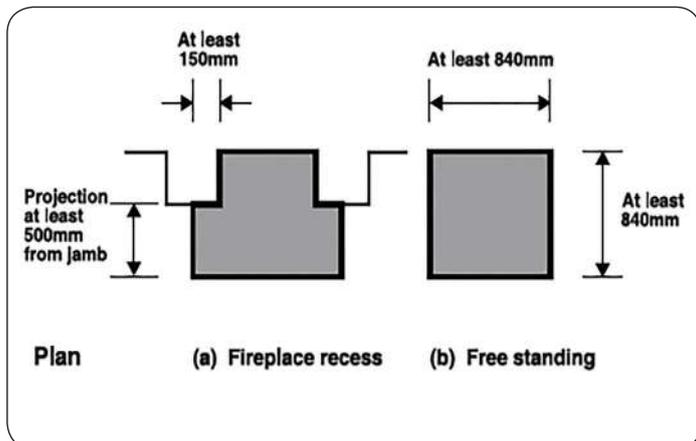
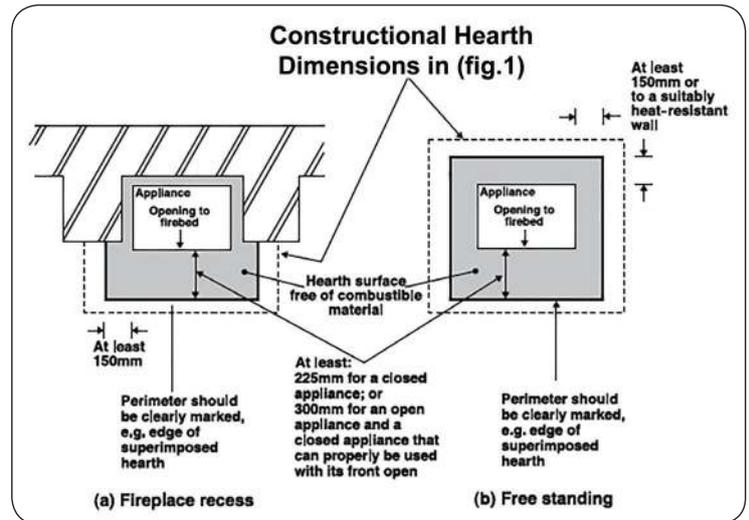

fig.1 Constructional Hearth Dimensions for Solid Fuel Appliances & Open Fires
fig.2 Non Combustible Hearth surrounding Solid Fuel Appliance
Hearths should be constructed from suitably robust materials & to appropriate dimensions. (fig.1) A way of making provision would be to adopt the guidelines outlined below & to provide a hearth appropriate to the temperatures that the appliance can create around it.
B. Constructional hearths in accordance with the guidelines outlined. (fig.2) Constructional Hearths should have dimensions as outlined in figure 1 above. They should be made of solid, non-combustible such as concrete or masonry, at least 125mm thick, including the thickness of any non-combustible floor and/or decorative surface.
1. Remove the outer rear flue blanking plate by cutting off the four location tabs- see Fig.1
2. Remove the inner rear flue blanking plate by cutting off the three location tabs- see Fig.2